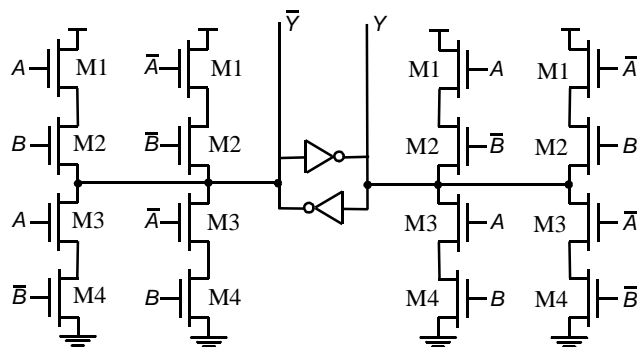

Figure 6.11 Cascoded Logic Styles.
14. Describe the logic function computed by the circuit in Figure 6.11. Note that all transistors (except for the middle inverters) are NMOS. Size and simulate the circuit so that it achieves a 100 ps delay (50-50) using  $0.25\mu\text{m}$  devices, while driving a 100 fF load on both differential outputs. ( $V_{DD} = 2.5\text{V}$ ). Assume  $A$ ,  $B$  and their complements are available as inputs.